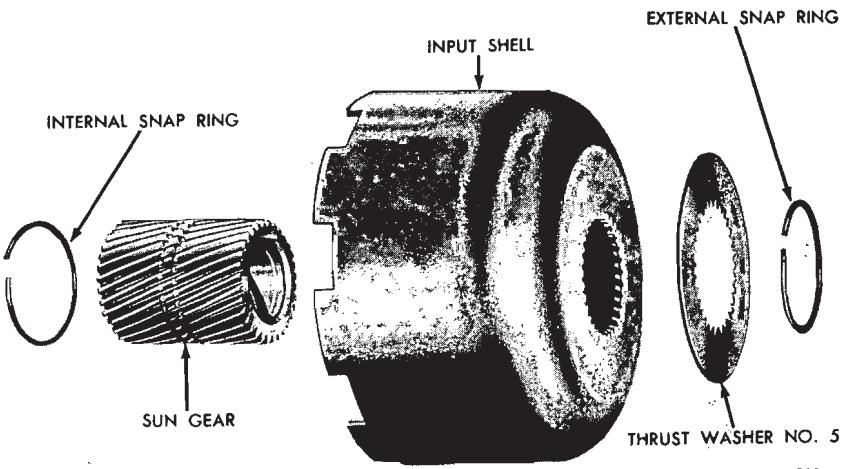

FIG. 89—Input Shell and Sun Gear Disassembled
3. Install thrust washer No. 5 on the sun gear and input shell (Fig. 89).
2. Remove thrust washer No. 5 from the input shell and sun gear (Fig. 89).